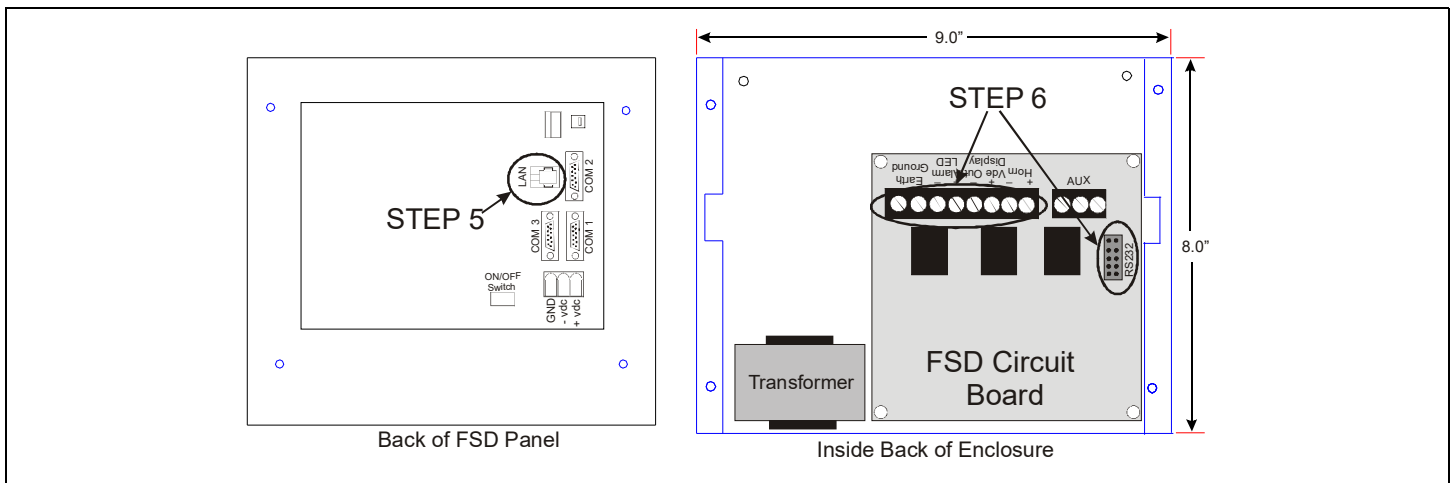

Figure 4 - Wiring Layout of FSD Enclosure
- STEP 5: Plug the Ethernet cable into the RJ45 connector (LAN) on the back of the FSD's display module (P/N 750-5100) as indicated by Step 5 of Figure 4.
- STEP 6: Reconnect the 8-pin connector and RS232 cable to the circuit board in Step 6 of Figure 4.